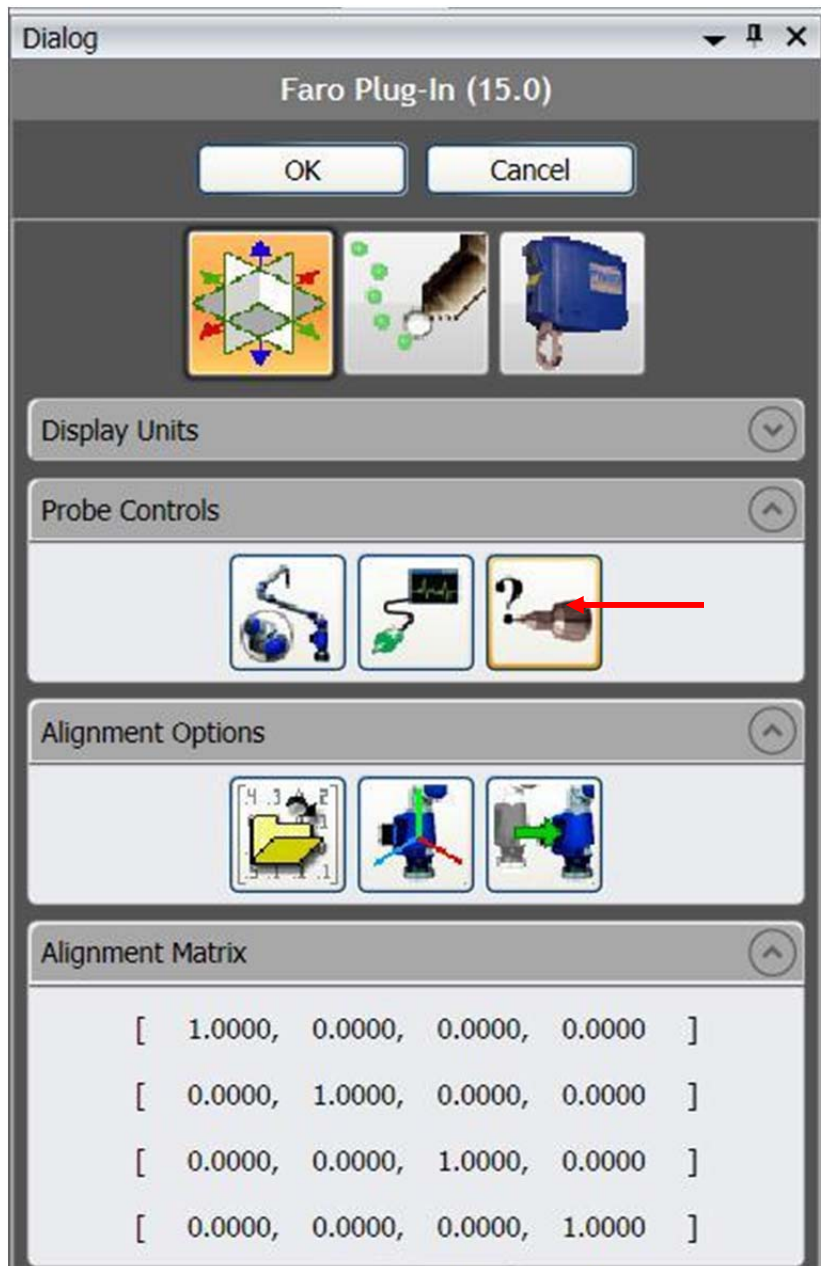

Figure B-5. Hard Probe Option Pane
5. Go to the Hardware tab in GeoMagic and select the calibrate icon (Figure B-5)